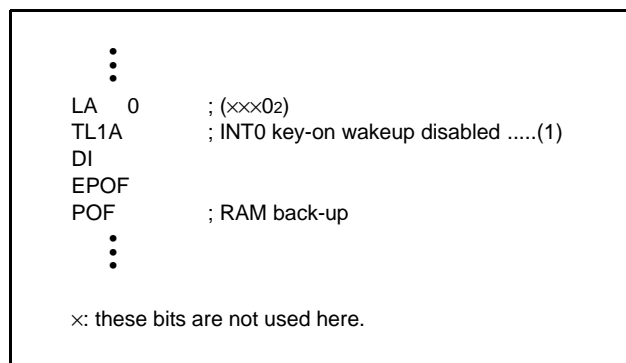

Fig 56. External 0 interrupt program example-2
- When the INT0 pin input is disabled (register I13 = "0"), set the key-on wakeup of INT0 pin to be invalid (register L10 = "0") before system enters to the RAM back-up mode. (refer to (1) in Figure 56).